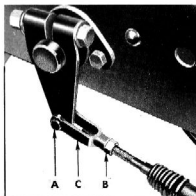

Fig. 52—Parking Brake Adjustment
2. Loosen brake cable clevis lock nuts "B" (fig. 52) and then remove cotter pin and clevis pin "A" disengaging clevis "C" from cross shaft outer levers.